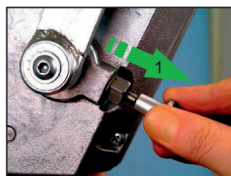
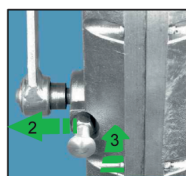

Figure 2
Figure 3
3. Pull out the locking pin with pear handle (see Figure 2, Action 1) until the crank handle axis (Action 2) pops out audibly and visibly (Figure 3).